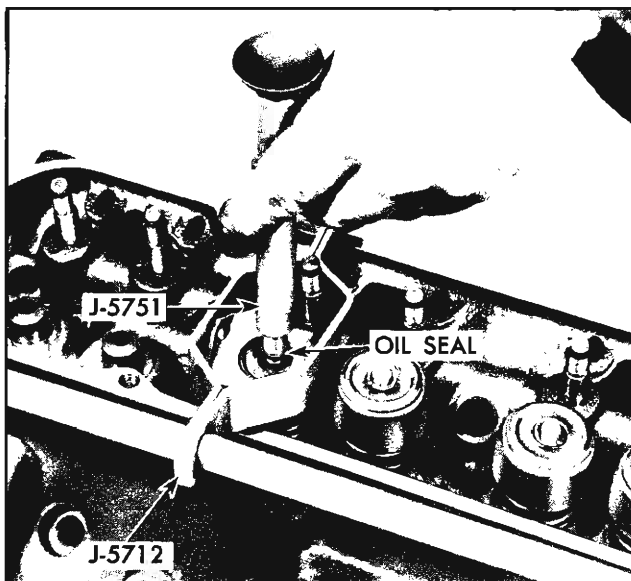

Fig. 6-37 Installing Valve Stem Seal
1. Install valves, valve springs, valve stem shields, valve spring retainer cups, valve stem seals and retainer cup locks using suitable spring compressor. The valve stem seals must be installed in the second groove (from end of stem). Valve Stem Seal Installer and Tester J-5751 can be used to install this seal (Fig. 6-37).